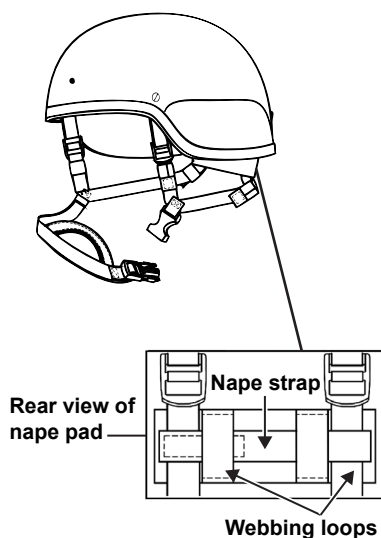

Figure 25. Nape Pad and Strap
1. Referring to **Figure 25**, withdraw the nape strap from the webbing loops of the back of the nape pad.